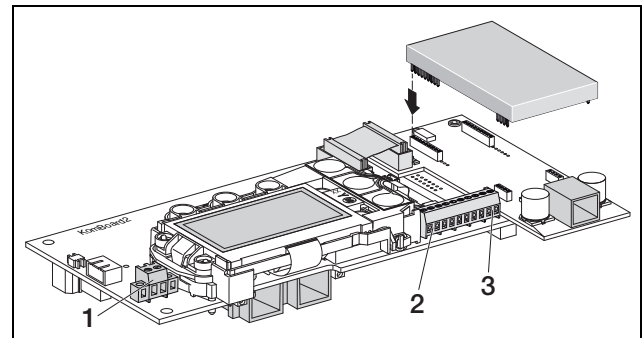

Fig. 44: Connections
- Connect the lines to the appropriate terminals (fig. 44, position 1).